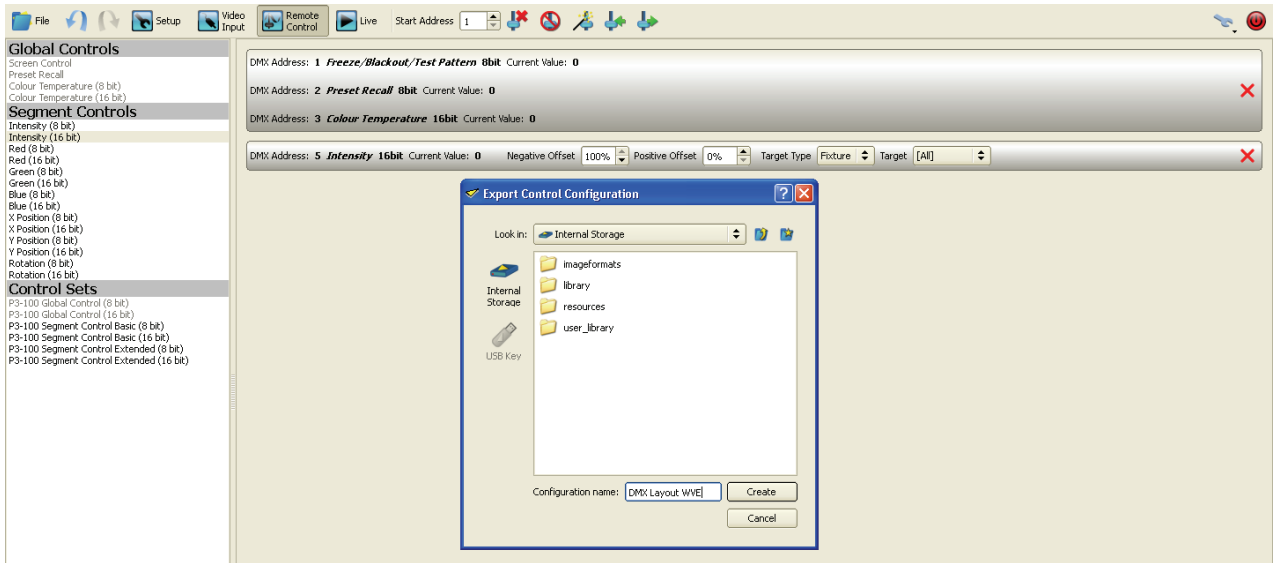

Figure 36: Exporting a DMX control layout
- You can export the complete set of DMX controls in their current layout for reuse in another configuration or show by clicking the export button. See Figure 36. The layout can be stored in the internal memory of the P3-100 or on a USB memory device as an XML file. Choose a location, give a name to your DMX control set and press **Create**.